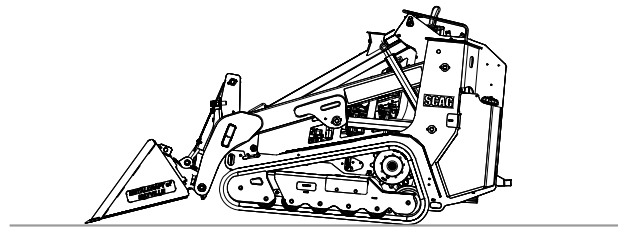

Figure 6-19. Track Cleaning
2. With the bucket attachment installed and angled downward, lower it to the ground so that the front of the traction unit lifts off the ground a few inches. See Figure 6.19.